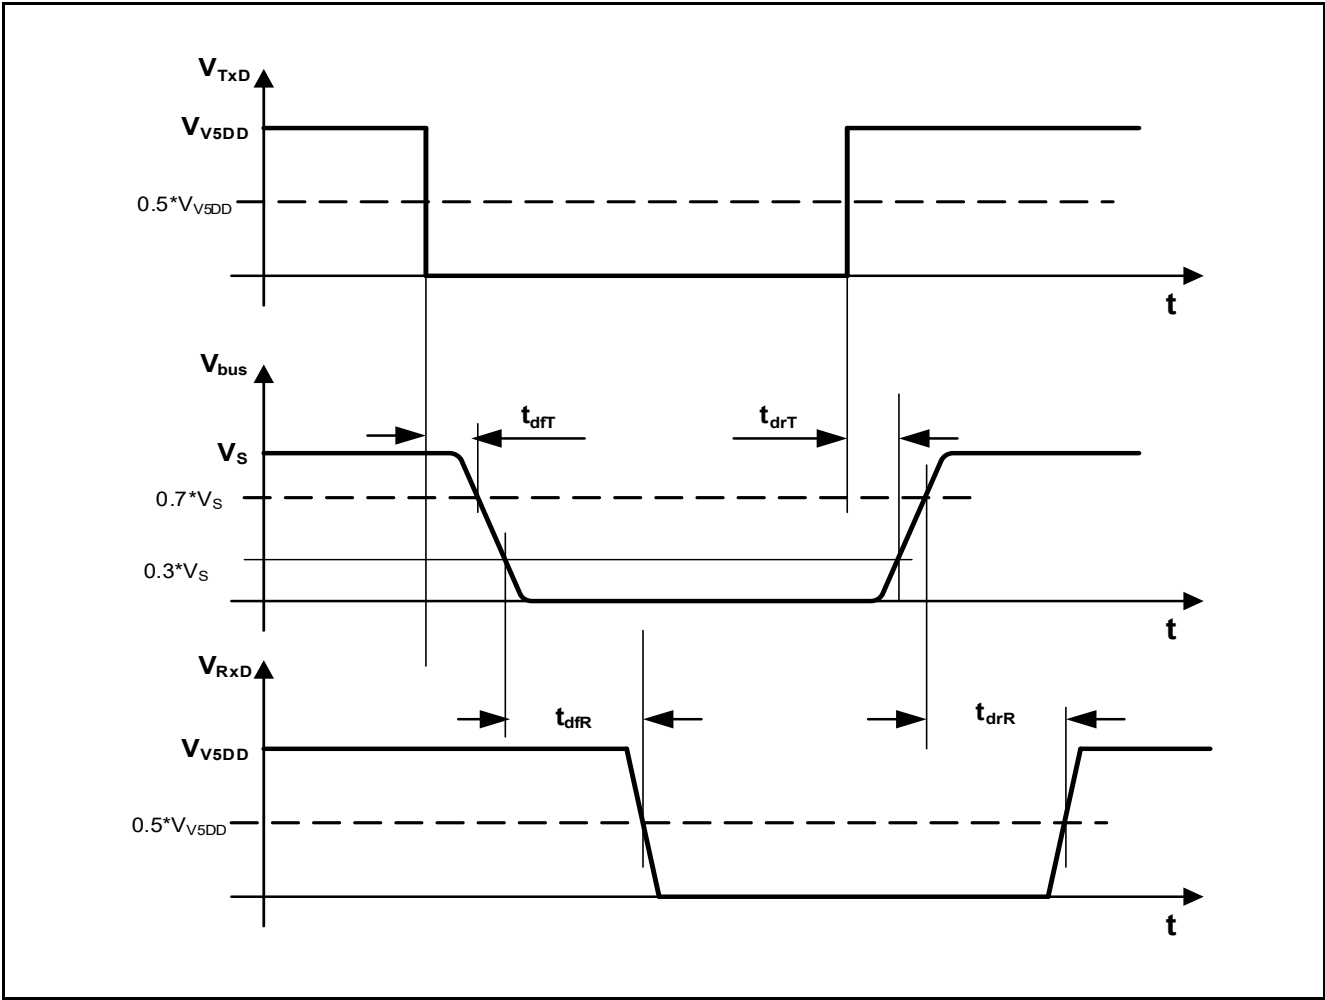

Figure 18 K-line transfer characteristics
1) For definition see **Figure 18**.